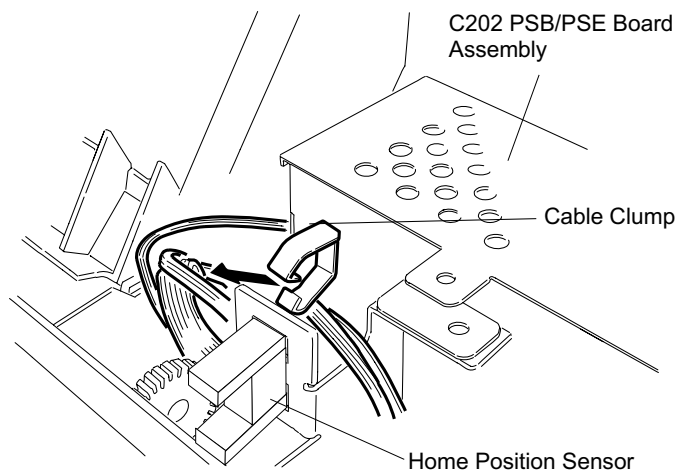

Figure 3-17. Connector Cable Removal
4. Remove all connectors from the clamp attached to the C202 PSB/PSE board assembly. (See Figure 3-17.)